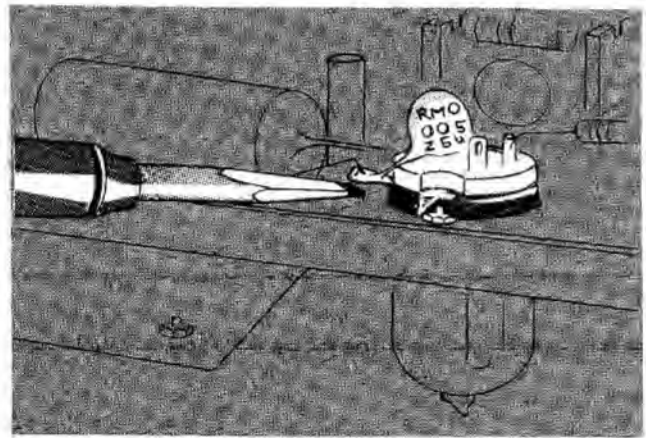
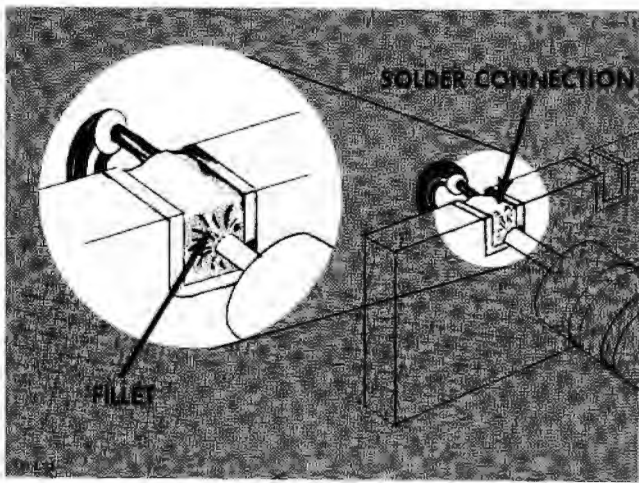

Fig. 5-4. Soldering to a terminal. Note the slight fillet of solder—exaggerated for clarity—formed around the wire.
Fig. 5-3. A slight fillet of solder is formed around the wire when heat is applied correctly.
6. Do not attempt to fill the notch on the strip with solder; instead, apply only enough solder to cover the wires adequately, and to form a slight fillet on the wire as shown in Fig. 5-3.
In soldering to metal terminals (for example, pins on a tube socket) a slightly different technique should be employed. Prepare the iron as outlined above, but tin with ordinary tin-lead solder. Apply the iron to the part to be soldered as shown in Fig. 5-4. Use only enough heat to allow the solder to flow freely along the wire so that a slight fillet will be formed as shown in Fig. 5-3.